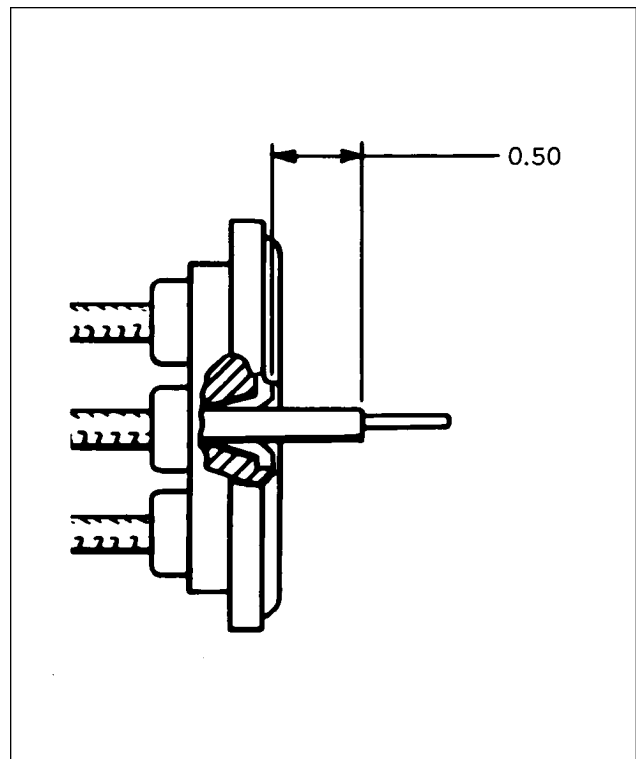

Figure 74-16. Measuring Wire From Top of Ferrule
- M. Measure 1/2 inch from tapered ferrule and strip remaining insulation from wire. (Refer to Figure 74-16.)